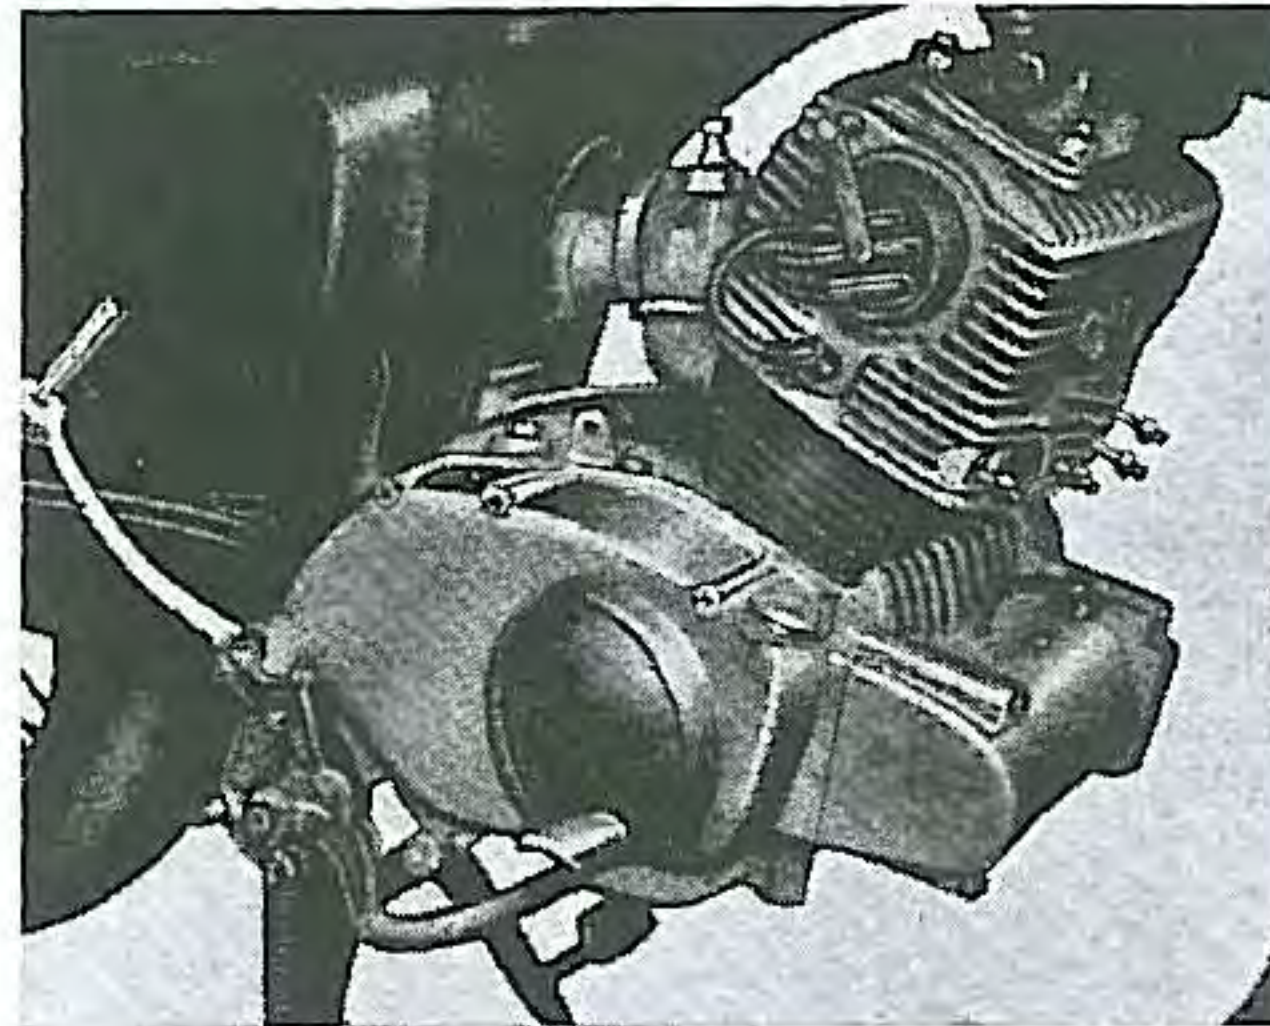

Fig. 5 Foot rest bar removal
- (1) Remove the step bar fixed on the under crank case, for standard engine. (Fig. 5)
- (3) Remove the carburettor covers. (Fig. 5)